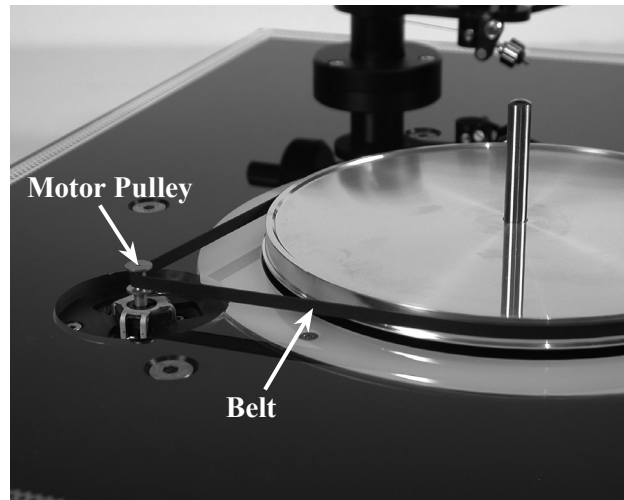

Figure 2
2. Using the supplied cloth gloves, place the belt onto the circumference of the inner platter and then onto the pulley of the motor. Rotate the inner platter by hand while seating the belt into it. Refer to figure 2.